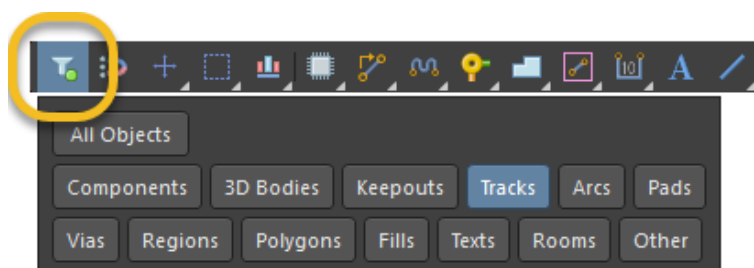

Figure 18. Active Bar selection filter for Tracks only
40. For ease of selection, select the filter in the *Active Bar*, Figure 18. Next, follow the steps below: